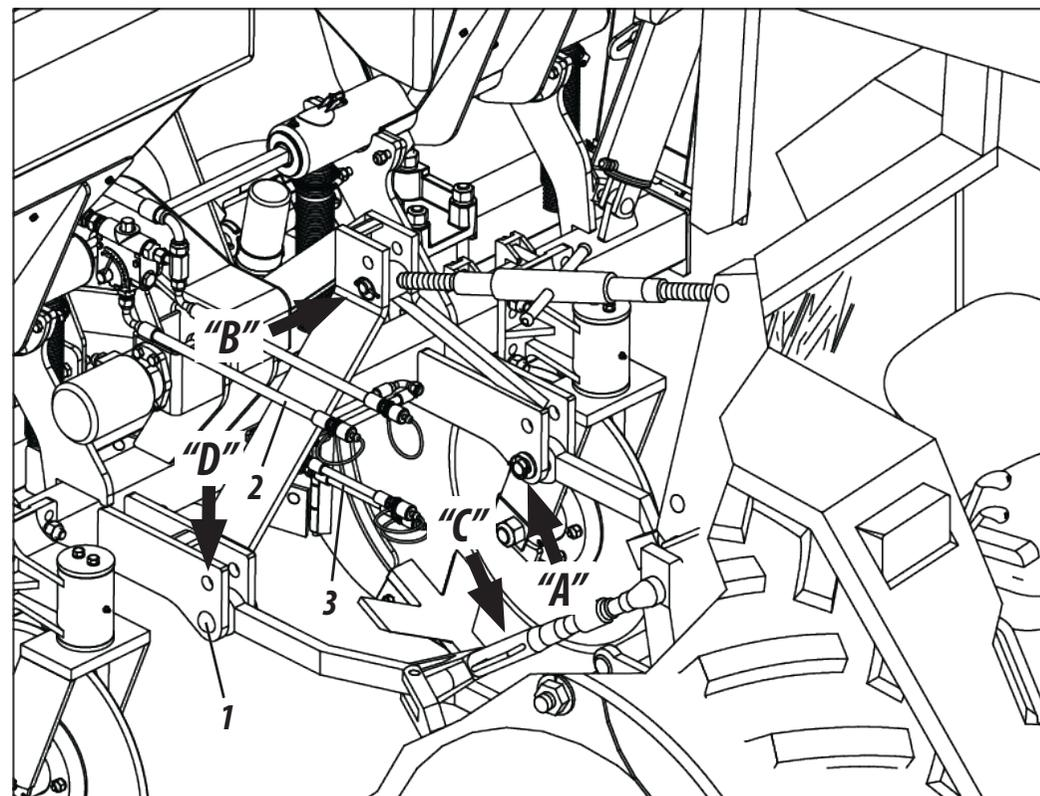

Figura 02
**ENGATE AO TRATOR (FIGURA 02)**